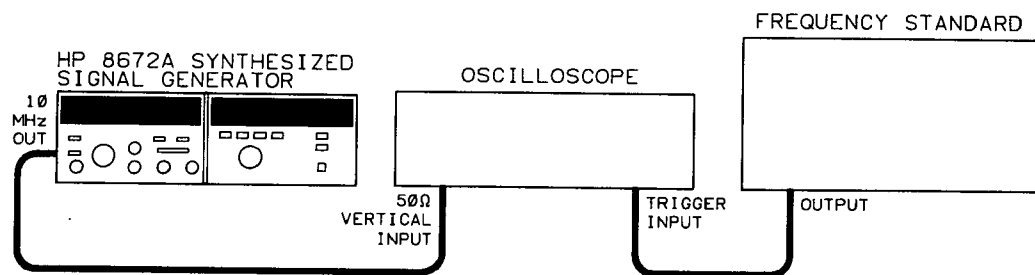

Figure 4-22. Internal Time Base Aging Rate Test Setup
2. Connect the equipment as shown in Figure 4-22.